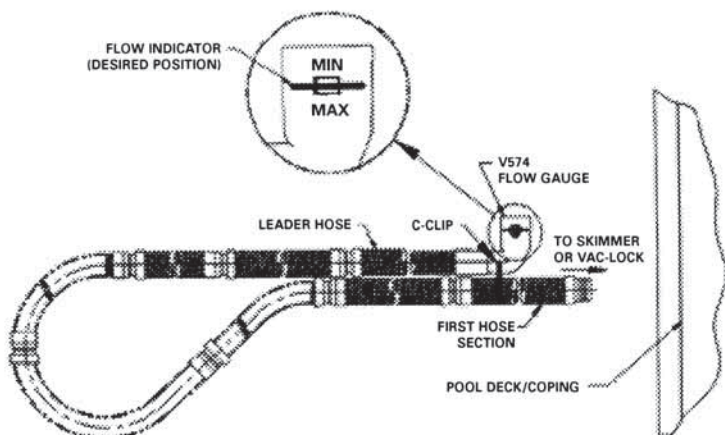
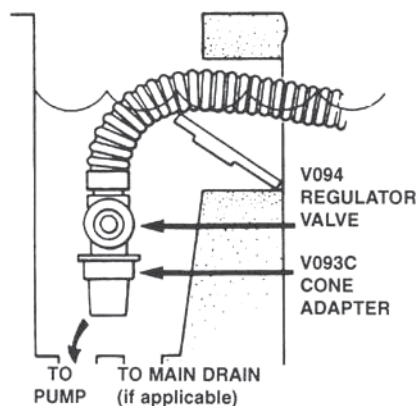

Figure 2
Figure 4
The hose should reach from the skimmer or Hayward Vac Lock® to the furthest point in the pool, **plus two (2) extra hose sections.** (The length of each hose section is four feet.) **This extra length is absolutely necessary for proper operation of the Navigator.** If the hose is not long enough, it will be necessary to purchase additional hose sections from your Hayward Navigator dealer. The hose length supplied (40 feet) has been determined to be sufficient for the majority of pools nationally. If your hose requirement is more than this, you must obtain additional hose sections for your cleaner to work properly. After the correct hose length has been assembled, fill hose completely with water. Insert Flow Gauge into the leader hose, then attach the C-Clip of the gauge onto the first hose section. Make sure the Flow Gauge is under water. (see Figure 2)
Check the water flow reading on the Flow Gauge. (Refer to Step 4, Figure 2). The black disk should be in the box between the "MIN" and "MAX" markings. If the setting is higher than required with the black disk outside of the box on the "MAX" side and you have connected your hose to the skimmer, it will be necessary to reduce the vacuum/water flow by using a valve or valves in the filter system, or the Hayward V094 Regulator Valve or an optional Hayward Automatic Skimmer Vacuum Plate designed to adjust vacuum/water flow. To install the V094 Regulator Valve, turn the filter system off. Remove the hose from the V093C Skimmer Cone, and after closing the Regulator Valve (Rotate the blue collar clockwise/toward + until closed/tight), insert the Regulator Valve into the Skimmer Cone, and insert the hose end into the Regulator Valve (see Figure 4).
If you have connected your hose to the Hayward Vac Lock, it will be necessary to adjust the vacuum/ water flow using the 3-way valve at the filter system. The handle on the valve should be turned so that the Flow Gauge which is installed in the Navigator hose reads properly (refer to Figure 2). After the 3-way valve has been properly adjusted, **the vacuum gauge at the 3-way valve should be marked so that the water flow can be adjusted by referring to the gauge at the valve**, rather than reinstalling the Flow Gauge in the hose each time an adjustment is necessary.
Some skimmers have two (2) holes in the bottom. There might be a valve, float or cover over the holes. Remove everything in the skimmer, exposing the holes. The rear hole is usually the suction port. In some cases it will be necessary to use the V094 Regulator Valve to control water flow through the Navigator (see Figure 4).